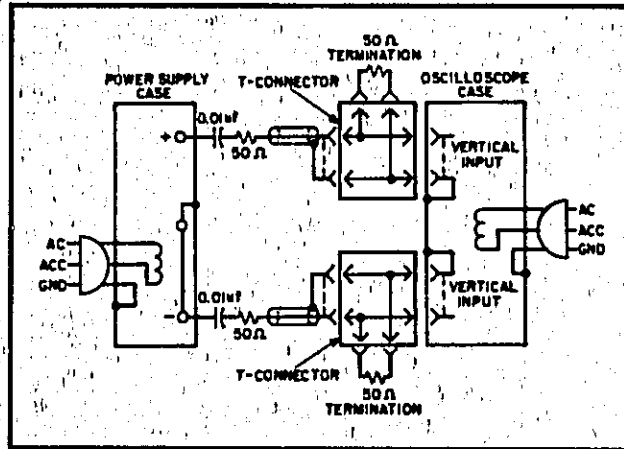

Figure 5-7. CV Noise Spike, Test Setup
1. As shown in Figure 5-7, two coax cables, must be substituted for the shielded two-wire cable.
5-33 The circuit of Figure 5-7 can also be used for the normal measurement of low frequency ripple and noise; simply remove the four terminating re-
istors and the blocking capacitors and substitute a higher gain vertical plug-in in place of the wide-band plug-in required for spike measurements. Notice that with these changes, Figure 5-7 becomes a two-cable version of Figure 5-6C.